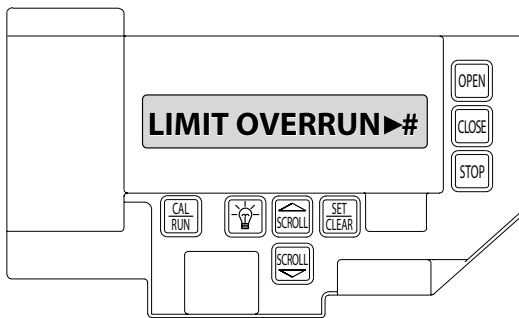

Fig. 8
- 2) Press SCROLL until display reads "UP LIMIT>SET" or "DOWN LIMIT>SET." Figure 8.
- 1) Press SET/CLEAR until the display reads the desired value (1-9). Fig. 8